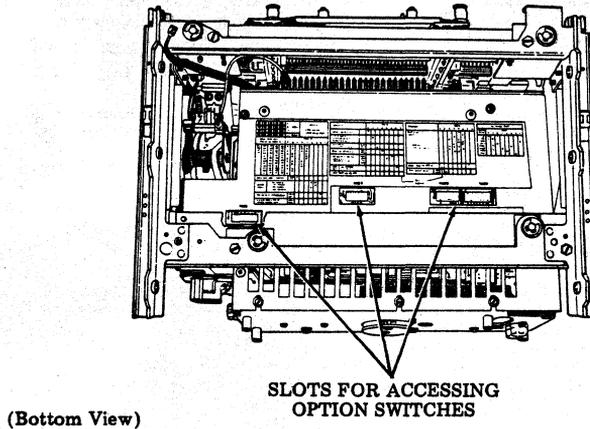

Fig. 11—Forms Access Printer (80-Column)
5.09 It is not necessary to remove the 410071 circuit card from the printer in order to option it. Option switches on the card are accessible through openings in the bottom plate of the printer (Fig. 11 and 12). Refer to paragraph 5.16 for options on the printer logic card.